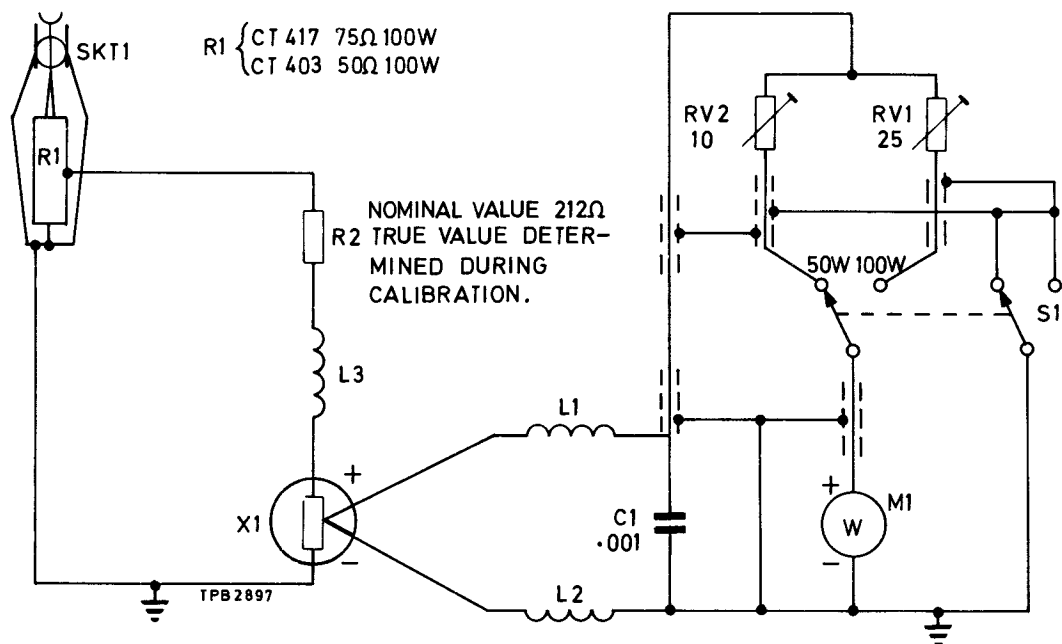

Fig. 4 Wattmeter CT403 and CT417 - old circuit
2. The dissipative element in the CT417 and CT403 consists of a heavy-duty high-stability resistor R1 (Fig. 4) which has a tubular ceramic former with a conducting outer coating of cracked carbon. The resistor is mounted in an upward slanting position to assist cooling by convection and forms the central conductor of a slab line of relatively large dimensions. Suitable air vents are provided in the case to allow free air flow; also the interior of the case